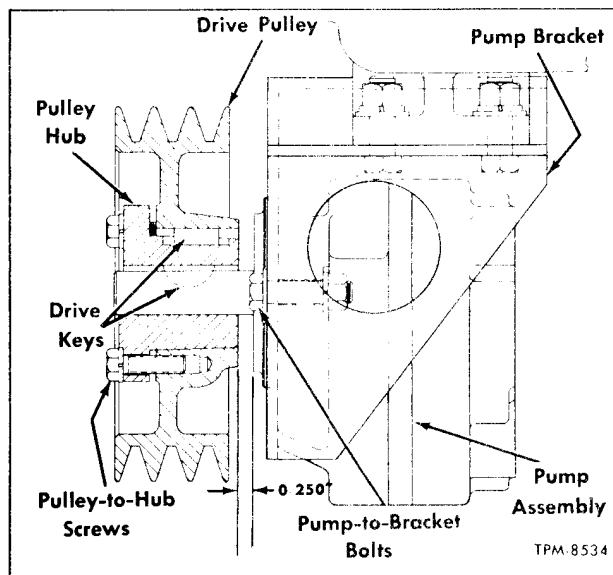

Figure 22—Condenser Fan Pump and Pulley Installation
At regular intervals pump drive belt alignment should be checked as misalignment could cause rapid wear on belts. Figure 22 shows pump mounted and means of repositioning pulley if necessary. Proper alignment exists when pump pulley belt grooves are squared with belt grooves on compressor flywheel pulley within clutch housing. This alignment can be made by moving pulley and tapered hub in or out on pump shaft. Pulley and hub are retained to shaft with three screws. Move pulley and hub on shaft as necessary, then retighten screws firmly. Also, proper alignment exists when pulley grooves are on same plane. Misalignment here could occur if the four bolts which attach pump mounting bracket to the clutch housing should loosen. Bolt holes in mounting bracket are slightly larger than bolt diameters, and loosened bolts could allow entire pump and bracket unit to shift on compressor flanges. Tighten all four bracket-to-compressor bolts firmly.
1. Position pump bracket over pump shaft and attach to pump flange loosely with two bolts and nuts. NOTE: Make sure pump attaching bolts are inserted from pulley side of pump as shown in figure 22. Install pulley and hub with drive keys to mark made prior to removal on shaft. NOTE: If no location mark was made, position pulley 0.250" from pump seal cover as shown in figure 22. Tighten three hub screws evenly and firmly.